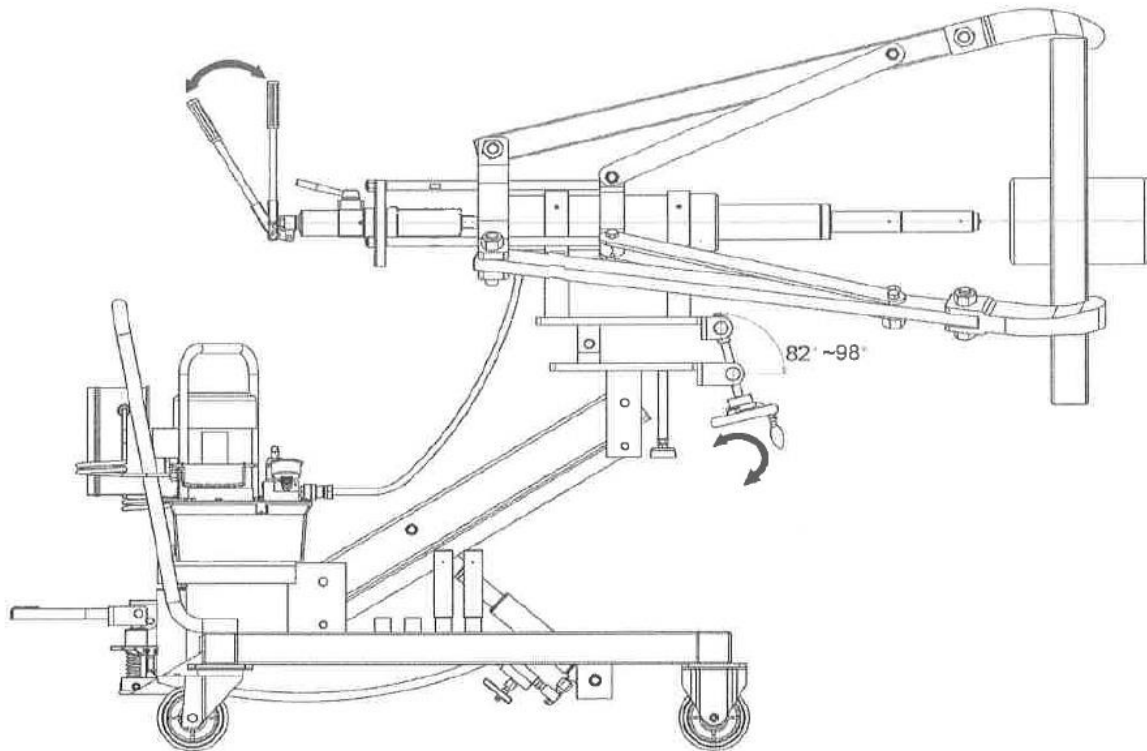

Figure 6 – Advancing the Forcing Cylinder
- 5.3.5 Once the puller is aligned, press the button on the remote switch to advance the forcing cylinder toward the object, stopping just as the cylinder head touches the shaft (see Figure 6).